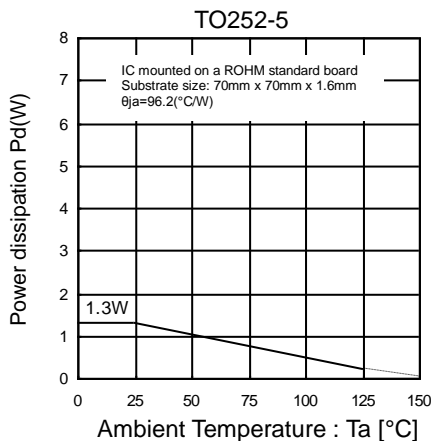
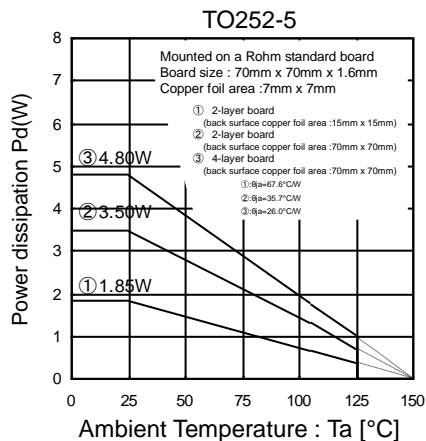
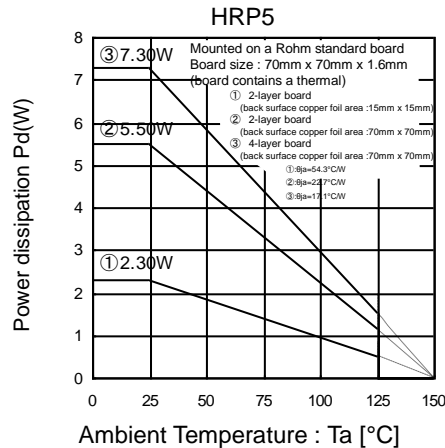

Figure 15
Figure 16
Figure 18
Refer to the heat attenuation characteristics illustrated in Figure 15 to Figure 18 when using the IC in an environment where T_a exceeds 25°C. The operating temperature of the IC greatly influences the characteristics of the IC. If the temperature exceeds the maximum junction temperature T_{jmax} , the elements of the IC may be deteriorated or damaged. It is necessary to give sufficient consideration to the heat of the IC in view of two points, i.e., the protection of the IC from instantaneous damage and the maintenance of the reliability of the IC in long-time operation.
In order to protect the IC from thermal destruction, it is necessary to operate the IC below the maximum junction temperature (T_{jmax}) Figure 15 and Figure 16 illustrate the power dissipation/heat attenuation characteristics for the TO252 package. Operate the IC within the power dissipation P_d . The following method is used to calculate the power consumption P_c (W).
$$I_{OUT} \leq \frac{2.496 - 12 \times I_{CC}}{12 - 5} \quad \left(\begin{array}{l} \text{Figure 16 ③ : } \theta_{ja} = 26.0^\circ C/W \text{ to } -38.4 mAW/^\circ C \\ 25^\circ C = 4.80W \text{ to } 85^\circ C = 2.496W \end{array} \right)$$